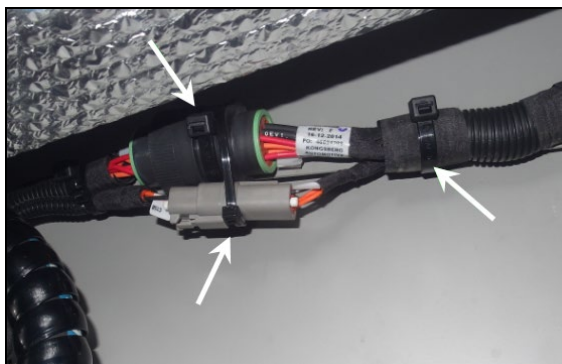

Fig.34
30. Install three (3) cable ties to secure the connectors like shown in the pictures below (Fig.34).